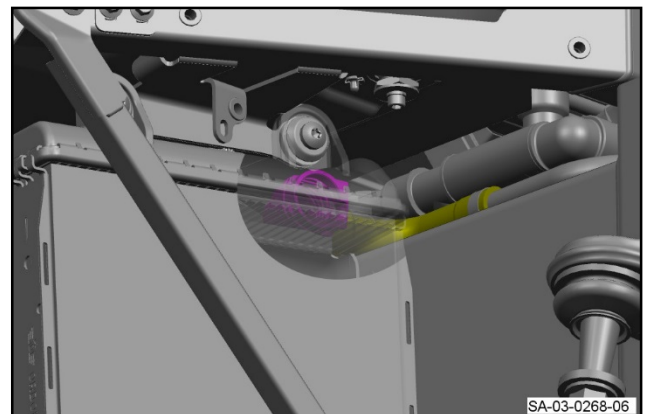

Figure 6
7. Examine the WACAC hose connection into the left side auxiliary radiator (refer to Figure 6). It is possible that the attachment clip is not fully engaged to hold the hose correctly.